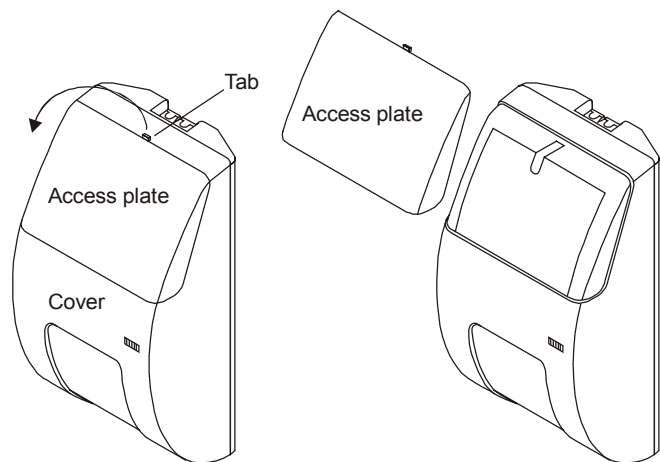

Figure 2: Removing the access plate
1. Use the tab to pull the access plate off of the cover (Figure 2).